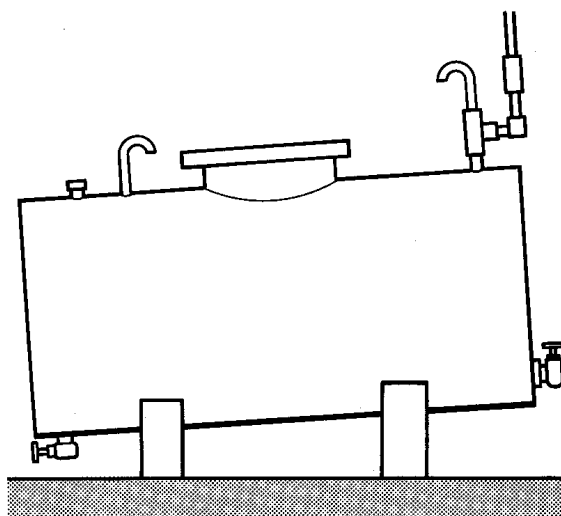

FIG. 52
4. Fig. 52. The storage tank should be under cover and supported on cradles of sufficient height to enable the tractor fuel tank to be filled by gravity, and should have a suitable manhole cover to provide access for cleaning. The final outlet cock should be located to allow 76 mm (3 in) settling depth for water and sludge; it should feed through a detachable filter with 120 mesh screen. There should be a fall of about 40 mm per metre ($\frac{1}{2}$ in per ft) towards the sludge drain plug.